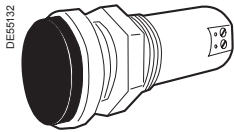

Fig. 8
- an indicator lamp to be screwed in for thin walls ≤ 6 mm (fig. 8),